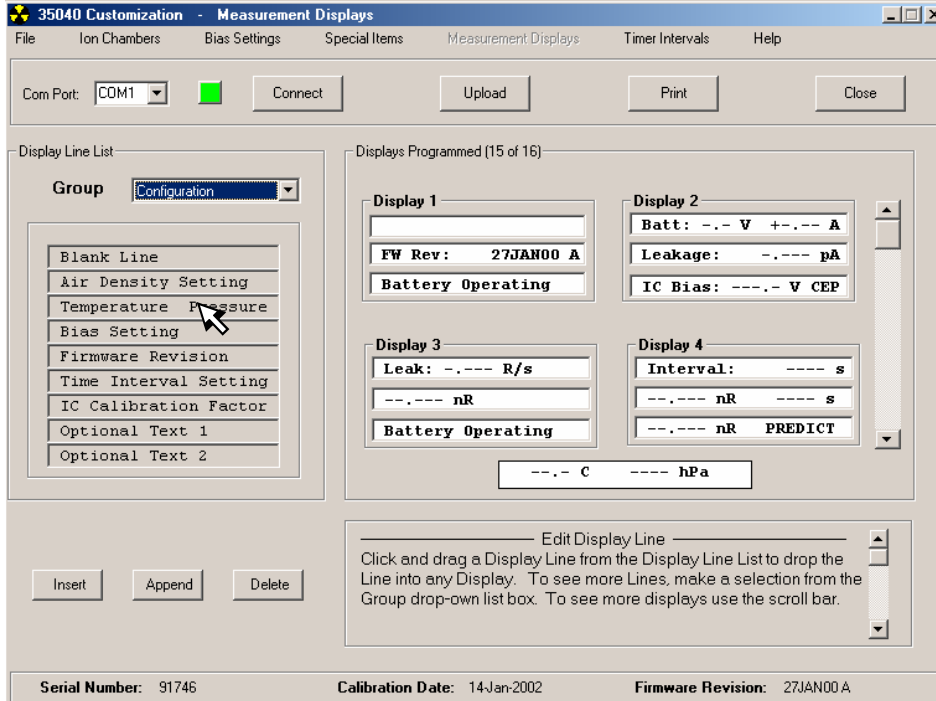

Figure 3-37. The Measurement Displays Form (right click the mouse on an item in the Display Line List to show the format of the Display Line)
The Model 35040 Therapy Dosimeter can contain up to sixteen (16) measurement displays, which are viewed from the Measurement Displays Form. With this form you may customize the appearance of any of the measurement displays. All screens must show an Annunciators Status Line (see Section 3.9.13) on the first line of the display. You may choose what appears on the other three lines. Figure 3-37 shows the Measurement Displays Form.
Right click mouse on the Title of a Display Line (in the Display Line List) to view the format or Appearance of the Measurement Display. Refer to Figure 3-37.